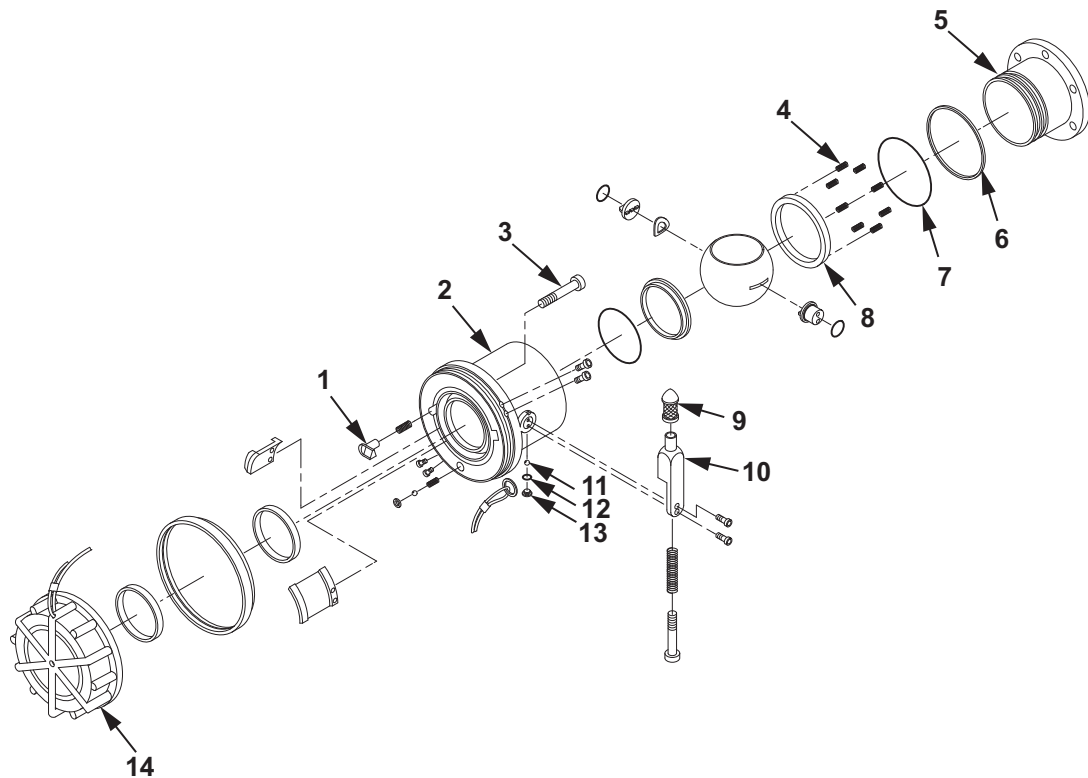

Figure 4. Valved Dry-Break Coupling Assembly.
During adjustment of lockout pin (Figure 4, Item 1), ensure that ball valve (Figure 4, Item 3) is securely seated at all times.
35. Adjust lockout pin (Figure 4, Item 1).
- a. Pull knob (Figure 4, Item 9) on control arm (Figure 4, Item 10) back and slowly rotate towards the closed position. If control arm (Figure 4, Item 10) cannot be rotated or is too tight, then lockout pin (Figure 4, Item 1) requires adjustment.
- b. Adjust lockout pin (Figure 4, Item 1) by loosening screw (Figure 4, Item 3) one-quarter turn at a time until control arm (Figure 4, Item 10) can be rotated freely.
36. Lightly lubricate new O-ring (Figure 4, Item 6) with petrolatum and install O-ring (Figure 4, Item 6) in second groove on outside of inlet adapter (Figure 4, Item 5).
37. Lightly lubricate new O-ring (Figure 4, Item 7) with petrolatum and install O-ring (Figure 4, Item 7) in inside groove of inlet adapter (Figure 4, Item 5).
38. Position eight springs (Figure 4, Item 4) in the eight holes on the inside of the inlet adapter (Figure 4, Item 5).
39. Install new seal (Figure 4, Item 8) in inside groove of inlet adapter (Figure 4, Item 5).
40. Position inlet adapter (Figure 4, Item 5) into coupling (Figure 4, Item 2) and press in to line up groove of inlet adapter (Figure 4, Item 5) with groove of coupling (Figure 4, Item 2).
Ensure all 41 ball bearings (Figure 4, Item 11) are accounted for before assembly.
41. Hold coupling (Figure 4, Item 2) over cleaning cloth with screw hole up and insert ball bearings (Figure 4, Item 11) into hole.
42. Lightly lubricate new O-ring (Figure 4, Item 12) with petrolatum and install O-ring on screw (Figure 4, Item 13).
43. Install screw (Figure 4, Item 13) into coupling (Figure 4, Item 2).
44. Using torque wrench and screwdriver bit, torque screw (Figure 4, Item 13) to 25 in. lb (2.8 N•m).
2. While the couplings are connected, rotate control arm (Figure 4, Item 10) to the open position and try to disconnect the couplings by rotating in a counterclockwise direction. If the couplings disconnect, then repair of the valved dry-break coupling assembly is required.
3. Close the control arm (Figure 4, Item 10) and disconnect the valved dry-break coupling assemblies by rotating the couplings in a counterclockwise direction.
6. With the control arm (Figure 4, Item 10) in the open position, apply pressure of 5 PSI (34.47 kPa) to the repaired valved dry-break coupling assembly.
10. Close the control arm (Figure 4, Item 10) and disconnect the repaired valved dry-break coupling assembly from the similar valved dry-break coupling assembly by rotating the couplings in a counterclockwise direction.
12. With the control arm (Figure 4, Item 10) in the closed position, apply pressure of 5 PSI (34.47 kPa) to the repaired valved dry-break coupling assembly.
15. Reduce pressure from the test system, remove repaired valved dry-break coupling assembly from the test system and install dust cap (Figure 4, Item 14).